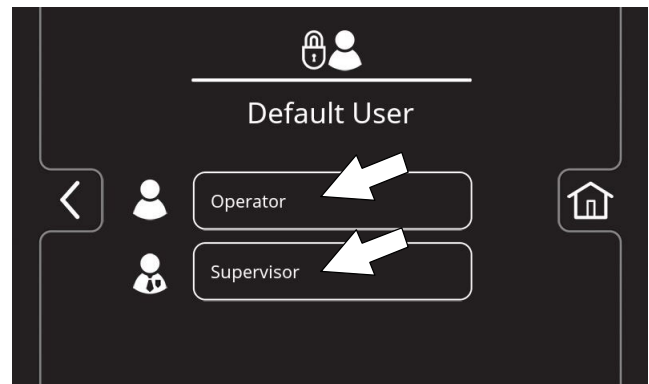

FIG. 169
6. Press either the Operator button or Supervisor button to select desired user profile as your home screen default without login (Figure 169).